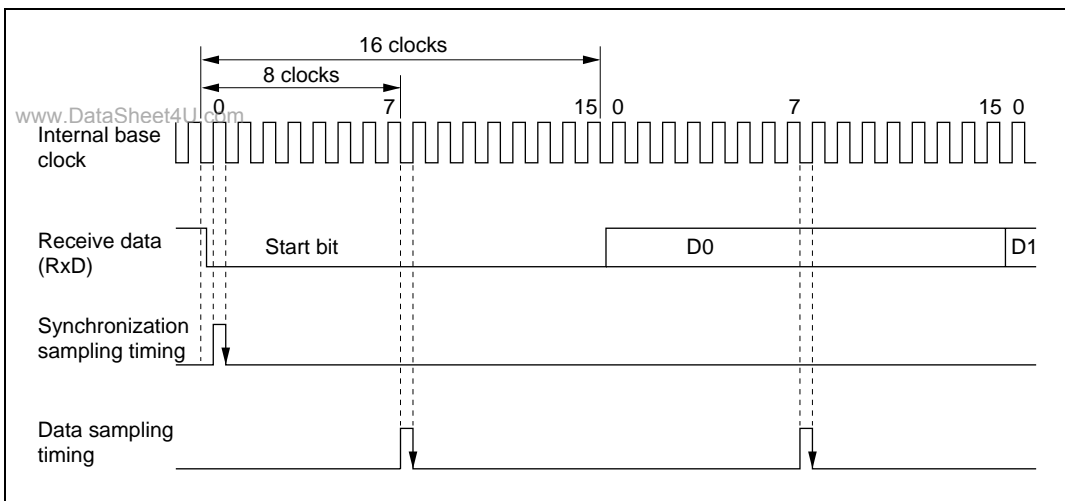

Figure 14.3 Receive Data Sampling Timing in Asynchronous Mode
In asynchronous mode, the SCI operates on a basic clock with a frequency of 16 times the bit rate. In reception, the SCI samples the falling edge of the start bit using the basic clock, and performs internal synchronization. Receive data is latched at the middle of each bit by sampling the data at the rising edge of the 8th pulse of the basic clock as shown in figure 14.3. Thus the reception margin in asynchronous mode is given by formula (1) below.